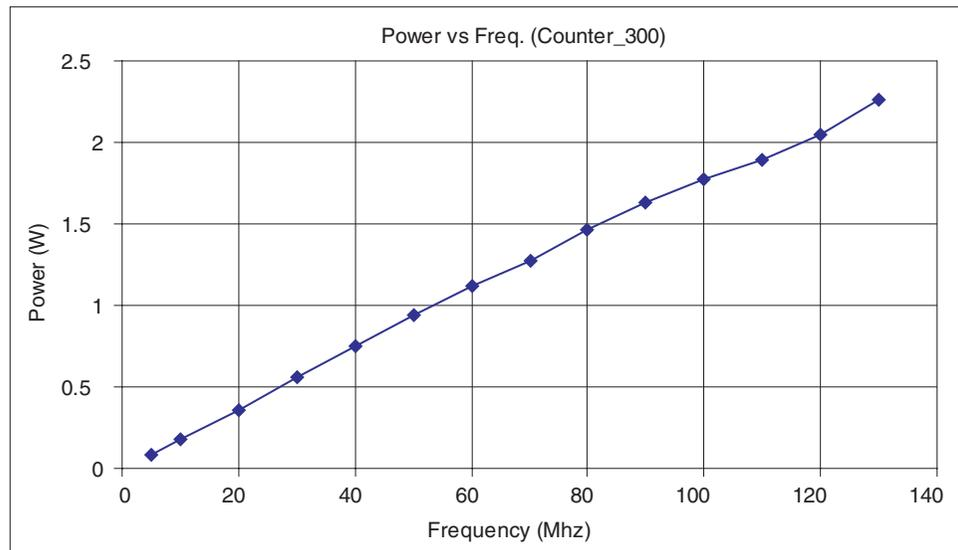

Figure 20: Power Consumption
Figure 20 exhibits the power consumption in an Eclipse QL6600 device. The chip was filled with (300) 8-bit counters—approximately 76% logic cell utilization.